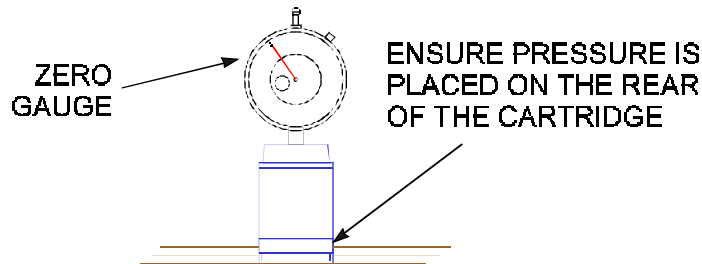

Figure 3-18. Zeroing the Micrometer Gauge.
3. Place the test cartridge upright on a flat surface and 'zero' the gauge by loosening the knob near the top and turning the dial until the needle is at the '0' position on the dial. Tighten the knob. See Figure 3-18.